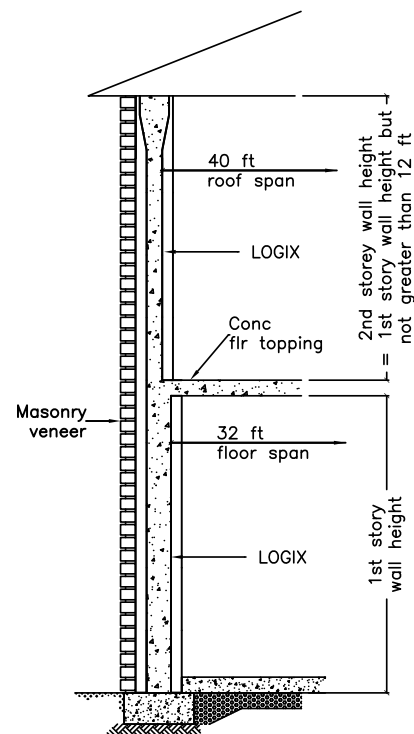

Fig 3C
- Two storey LOGIX supporting wood roof frame (Fig. 3C)